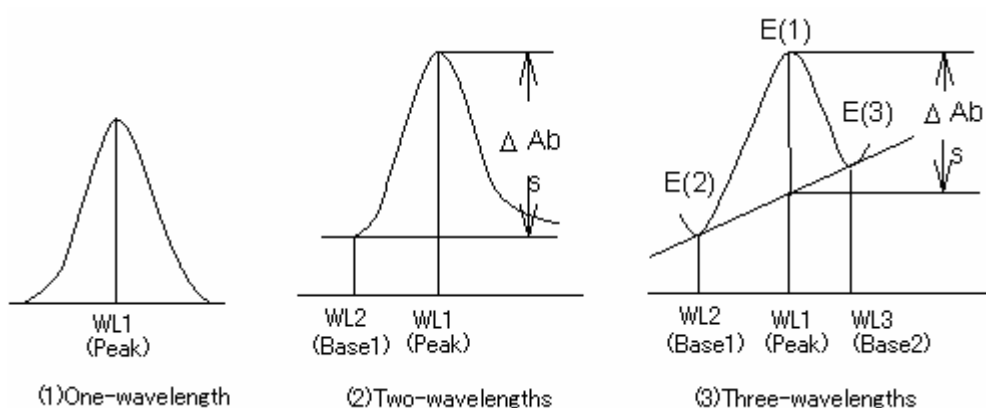

Figure 6.6 Difference in Quantification Method Based on Type of Baseline
[Method]	<p>Number of quantification wavelengths. Select the desired number of wavelengths to fit the baseline according to the sample condition.</p> <p>No Base (1 wavelength) : Used for a normal solution sample (see Fig. 6.6 (1)).</p> <p>1 base (2 wavelengths) : Used for a spectrum with a floating baseline. (see Fig. 6.6 (2)).</p> <p>2 base (3 wavelengths) : Used for a spectra with inclined baselines. (see Fig. 6.6 (3)).</p> <p>When using the three-wavelengths quantitation method, the absorbance can be found by the following function.</p> $\text{Abs} = E(1) - \frac{ WL1 - WL2 \cdot E(3) + WL3 - WL1 \cdot E(2)}{ WL3 - WL2 }$
[Method]	<p>The number of quantitative wavelengths. The desired number of wavelengths is selected from 1 wavelength, 2 wavelengths or 3 wavelengths to match the sample properties.</p> <p>No Base (1 wavelength): used for a normal solution sample (see Fig. 6.6 (1))</p> <p>1 Base (2 wavelengths): Used for a sample with a floating baseline (see Fig. 6.6 (2)).</p> <p>2 Base (3 wavelengths): Used for a sample with an inclined baseline (see Fig. 6.6 (3)).</p> <p>When using the three-wavelengths quantitative method, the absorbance can be found using the following function:</p> $\Delta \text{ Abs} = E(1) - \frac{ \text{WL1}-\text{WL2} \cdot E(3) + \text{WL3}-\text{WL1} \cdot E(2)}{ \text{WL3}-\text{WL2} }$